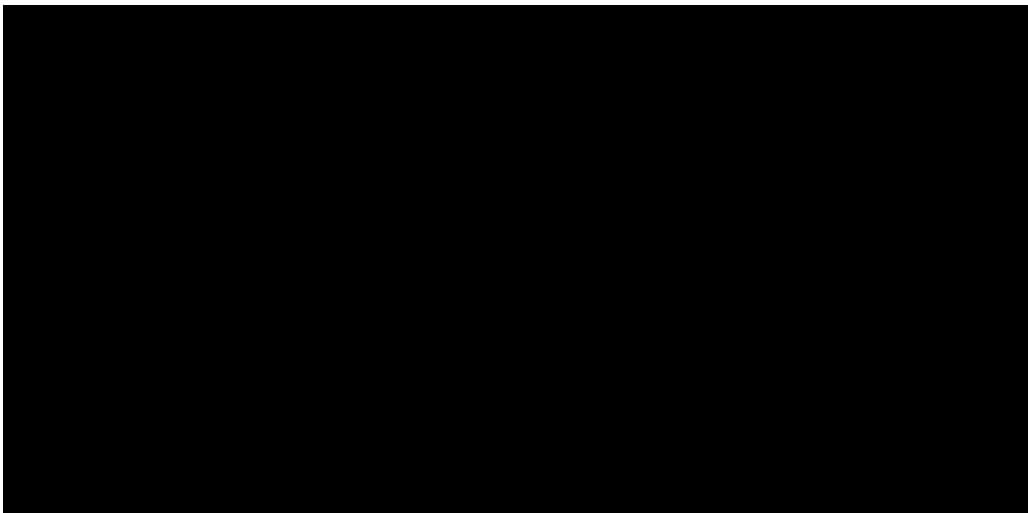

Fig.1.10
1)The two loose hose lines 4 are respectively passed through the traverse holes of the mounting plate 3 and are respectively mounted on wheel 2 which has been fixed to the mounting plate. The relative position of wheel 2 and handle 1 when installed as shown in fig. 1.10 ensures that wheel 2 is inside the handle 1, Only in this way can the rope slot on wheel 2 correspond to the crossing hole of mounting plate 3. After installing the loose gate hose line 4, lock wheel 2 and handle 1 with the bolt of M6× 20;